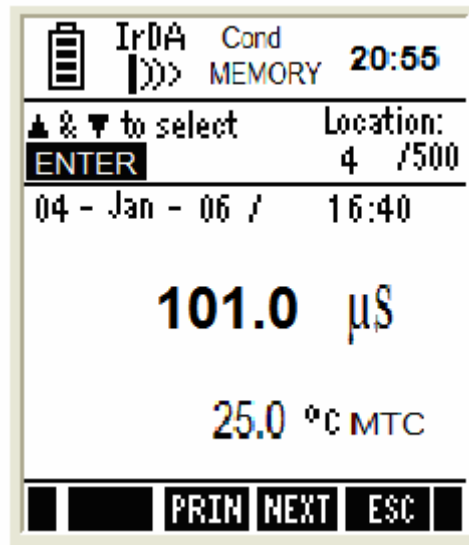

Figure 28 : Viewing stored data
3. Press **MEM (F2)** key to view stored data. The last stored data entry is shown in the display (Figure 28). The memory location of the currently showing data entry is shown in the top-right corner of the screen. (Figure 28).
3. Go to 'stored data viewing' screen as described in above section (Figure 28).